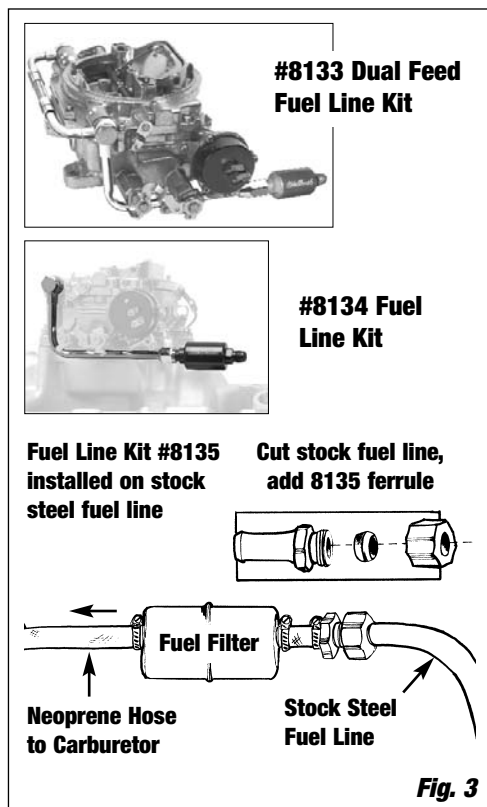

Fig. 3
2. **The stock steel fuel line must be converted** to either a fuel resistant rubber hose or one of the Edelbrock fuel line kits. The stock steel fuel line will not connect to the Thunder Series Carburetors. Use one of the Edelbrock Fuel Line and Filter Kits #8133 (dual feed), #8134 and #8135 as seen on the Edelbrock website or in the Edelbrock catalog (**See Fig. 3**).